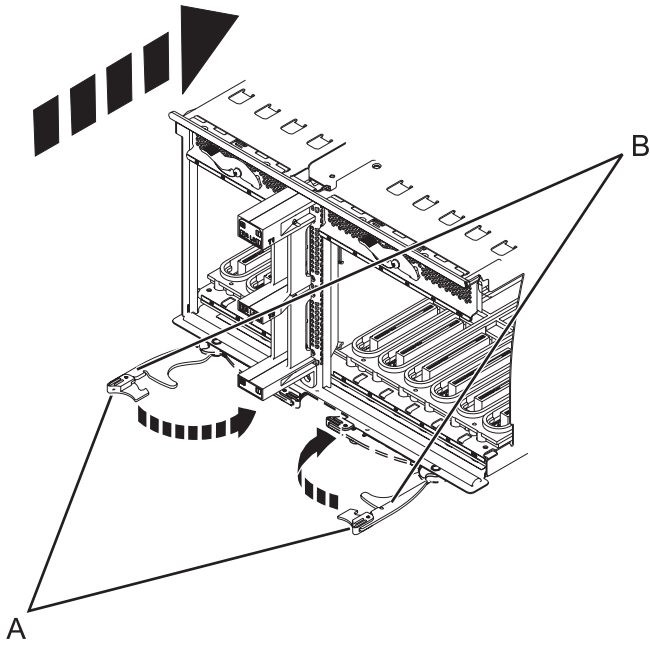

Figure 59. Install the I/O system board on a rack-mounted model
- Insert the I/O system board firmly into the server, as shown in Figure 59 on page 75.
- Secure the I/O system board with the locking tabs (A), as shown in Figure 59 on page 75.